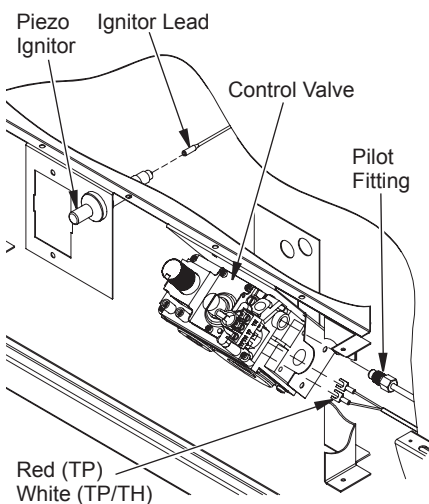

Figure 10 - Reconnecting Pilot Leads
5. Hand thread pilot line fitting into control valve outlet and tighten using a 7/16" open end wrench (see Figure 10).
6. Reconnect RED thermopile lead to terminal marked TP and WHITE thermopile lead to terminal marked TP/TH (see Figure 10, page 4).